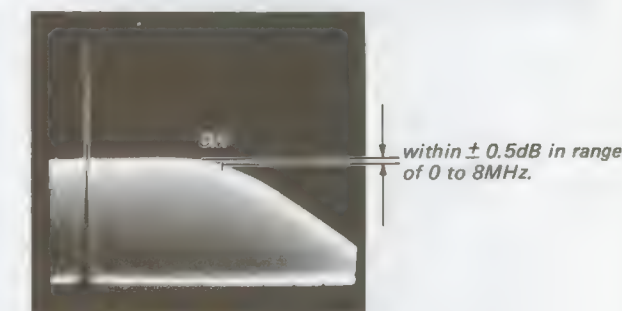

Fig. 5-98.
6. Adjust CV7 on the Q board so that the output waveform becomes flat in a range of 0 to 8 MHz. (See Fig. 5-98.)
10. Adjust CV9 on the Q board so that the output waveform becomes flat in a range of 0 to 8MHz. (Fig. 5-98.)
14. Adjust CV11 on the Q board so that the output waveform becomes flat in a range of 0 to 8 MHz. (See Fig. 5-98.)